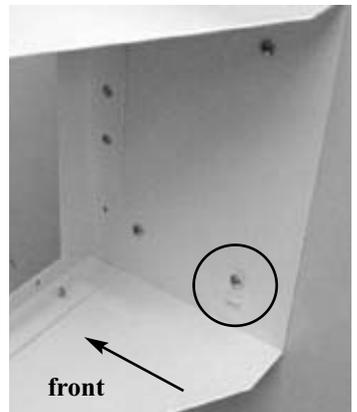

Figure 3
8. Install the recorder mounting bracket using four #8-32 x 1/2" screws and one tie wrap anchor. Install the tie wrap anchor on the bottom rear mounting screw (Figure 3).